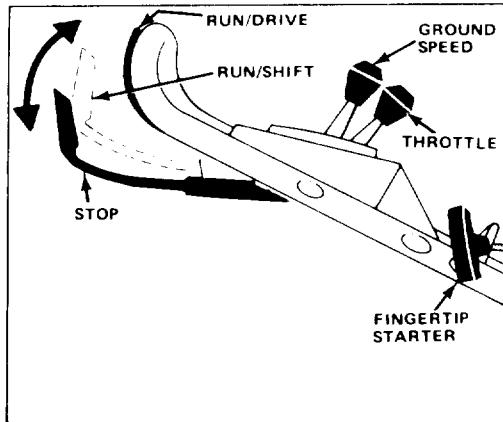
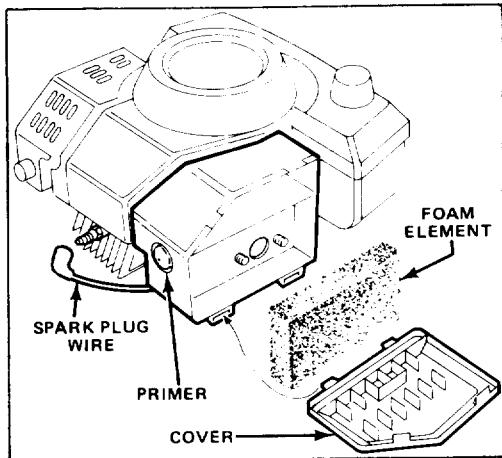

Figure 9
Figure 12
1. CONTROLS—Ground speed control, throttle, control bar, and fingertip starter are on upper handle (Fig. 9).
2. Push spark plug wire onto spark plug (Fig. 12).
3. **STARTING**—Move ground speed control to "N" and throttle to CHOKE (Fig. 9). Cover hole in center of primer with thumb and push once (Fig. 12). Lift control bar to RUN/DRIVE position and hold. Pull fingertip starter and regulate throttle as desired when engine starts (Fig. 9).
4. TRACTION OPERATION—Allow control bar to move into the RUN/SHIFT position. Move ground speed control to desired setting and squeeze control bar against handle to drive. Ground speed varies, depending on space between control bar and handle (Fig. 9).
1. Stop engine and pull wire off spark plug (Fig. 12).
2. Lift tabs at top of air cleaner cover and pivot cover down. Clean cover thoroughly (Fig. 12).
3. If outside of foam element is dirty, remove it from air cleaner body (Fig. 12). Clean thoroughly.